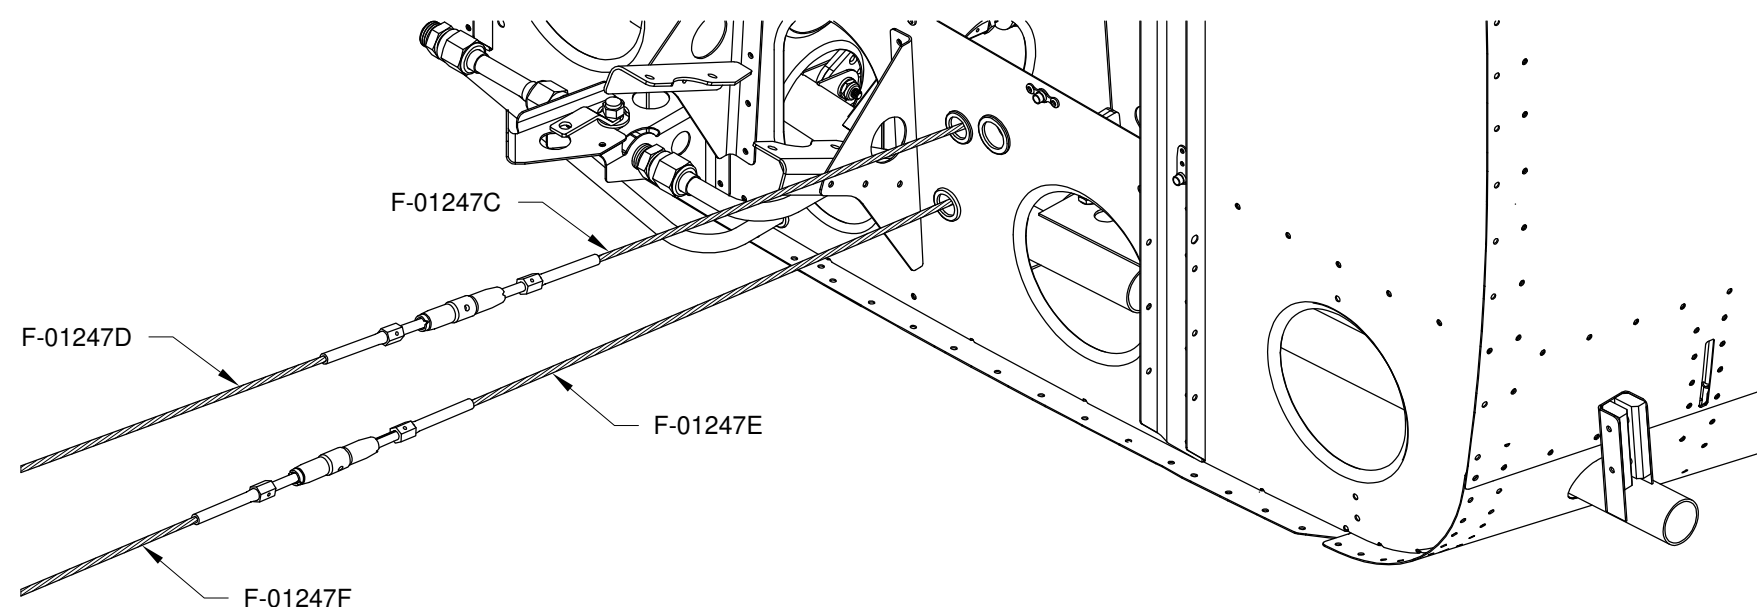

FIGURE 2: STABILATOR CABLES
Step 2: Connect the ends of the F-01247C & E Forward Stabilator Cables that were stowed in Section 32iS/U to the F-01247D & F Aft Stabilator Cables as shown in Figures 2 and 3. A wire tool can be made that is inserted into the holes in the cable ends; this will hold them stationary as the barrel is rotated.